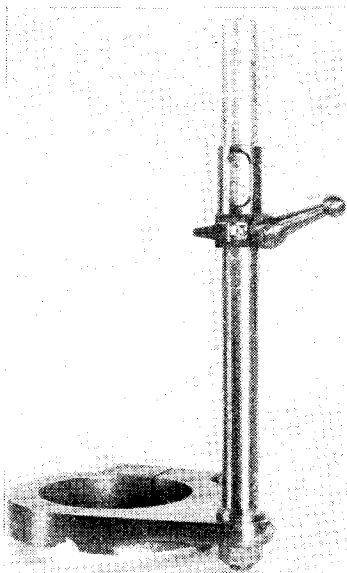

Fig. 2. The new drilling stop
of a drilling operation. To make for easier working and, perhaps, to satisfy a personal prejudice, a new depth stop of the pattern illustrated in Fig. 2 was designed and fitted. In the accompanying illustrations it will be seen that the pillar (B) is again secured in the clamp ring (A) attached to the quill, but the lower end of the pillar is given clearance to allow for adjustment after assembly. The sliding index collar (C), forming the depth stop, is secured to the pillar by means of a clamp-bolt (E).